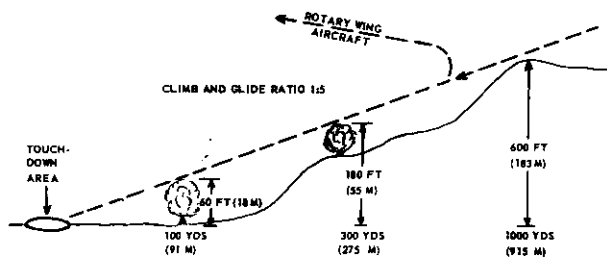

Figure 36. Approach/takeoff clearances (rotary-wing aircraft).
- (1) There should be at least one path of approach to the LZ measuring 75 meters wide.
- (2) A rotary-wing aircraft is considered to have a climb ratio of 1:5 (figure 36).
- (3) Takeoff and departure from the LZ may be along the same path used for the approach; however, a separate departure path as free of obstacles as the approach path is desired (figure 36).